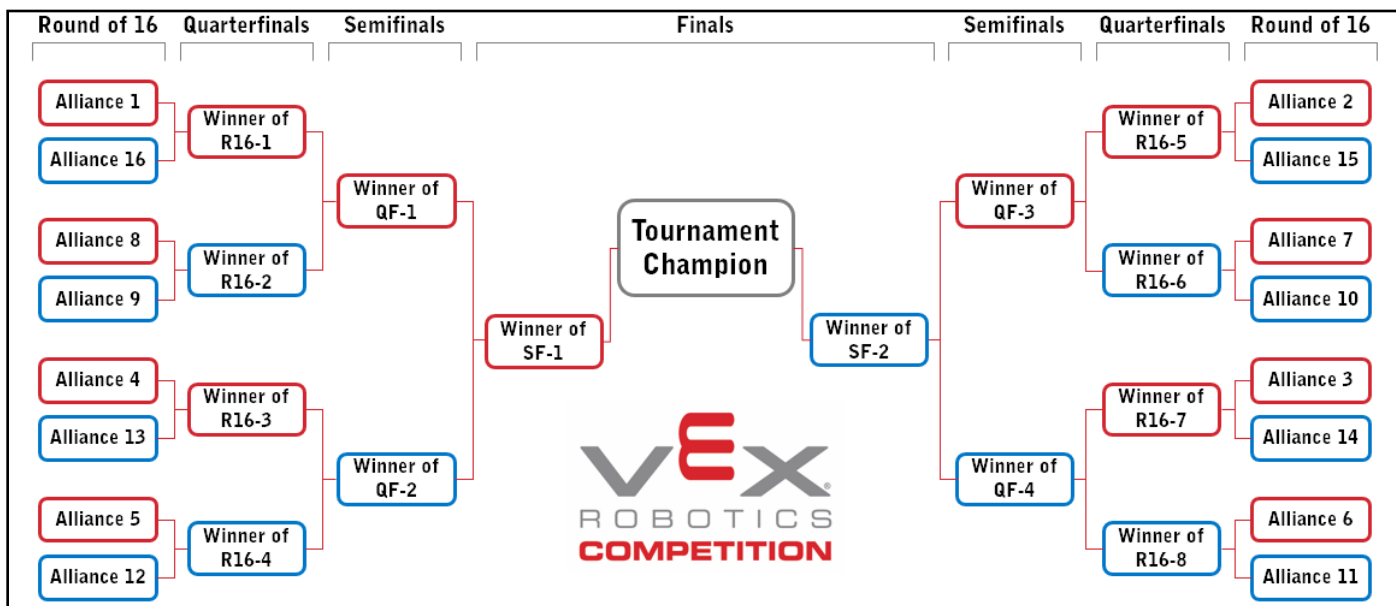

Figure T19-1: A 16-Alliance bracket
<T19> Elimination Matches follow the Elimination Bracket. A sixteen (16) *Alliance* bracket plays as shown in Figure T19-1: